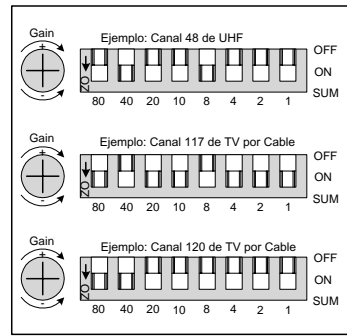

Ilustración 3
3. The channel is programmed by adding up the numbers which appear on the circuit board just below the programmer switches. (Figure 3) In the top example, the channel is set to UHF 48 by moving the "40" and "8" switches to the "on" position (e.g. 40+8=48).